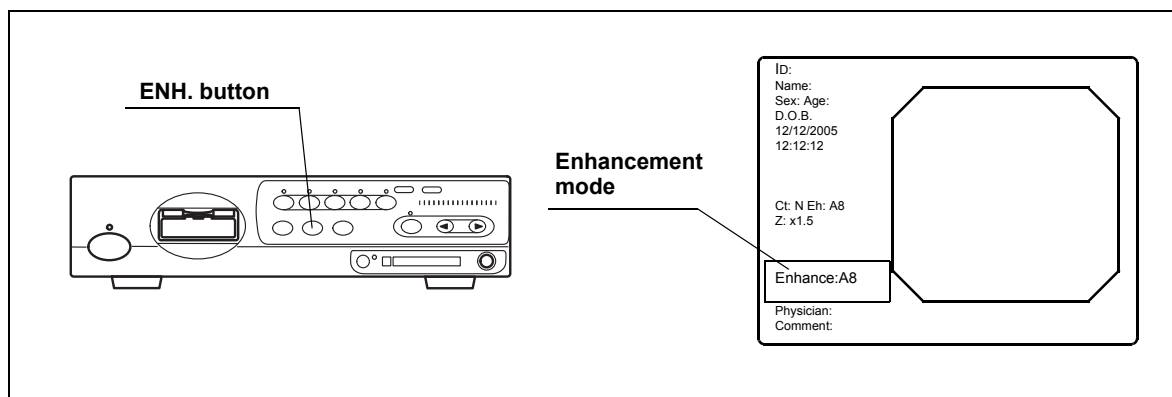

Figure 5.6
1. Press the “ENH.” button to change the enhancement mode (see Figure 5.6). The indicator above the button lights up and the selected mode is displayed on the monitor for a few seconds.